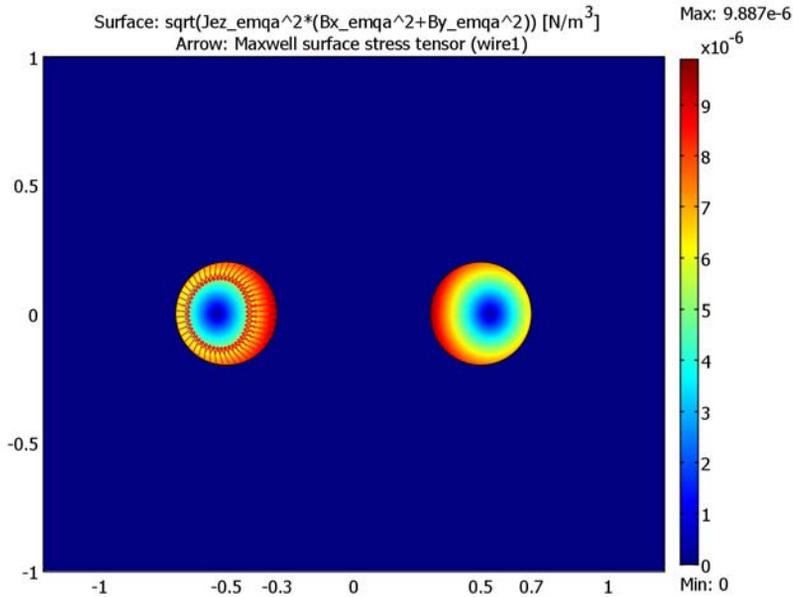

Figure 2-4: Stress tensor and magnetic field.
- 9 Click **OK** to close the dialog box and generate the plot shown in Figure 2-4.